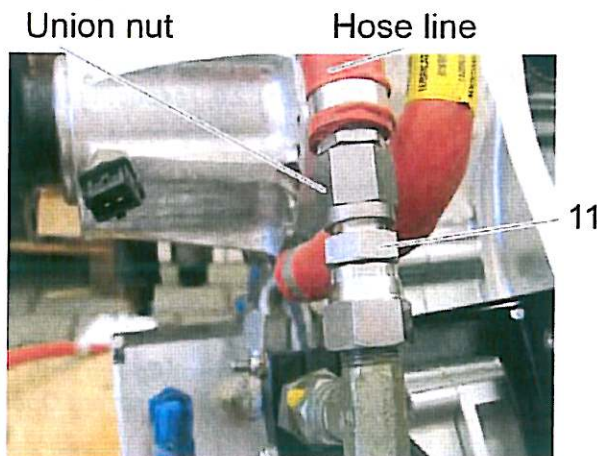

Figure 23
20. Attach the union nut of the hose line to the adapter (item 11) and tighten up the union nut to the specified tightening torque, while holding the adapter (item 11) steady. See Figure 23.